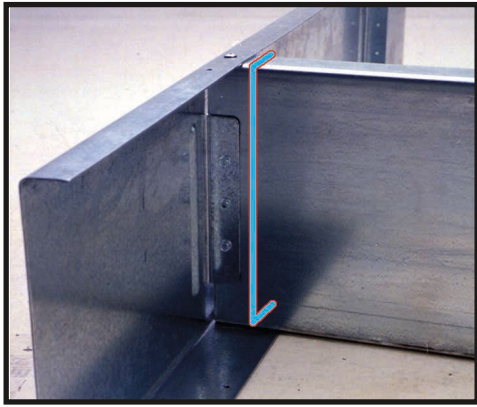

Fig 1: Rim Tab to Hard Side of Joist Only.
7. Rotate hard side of joist to tab and screw attach through pre-punched tab holes (Fig.1).